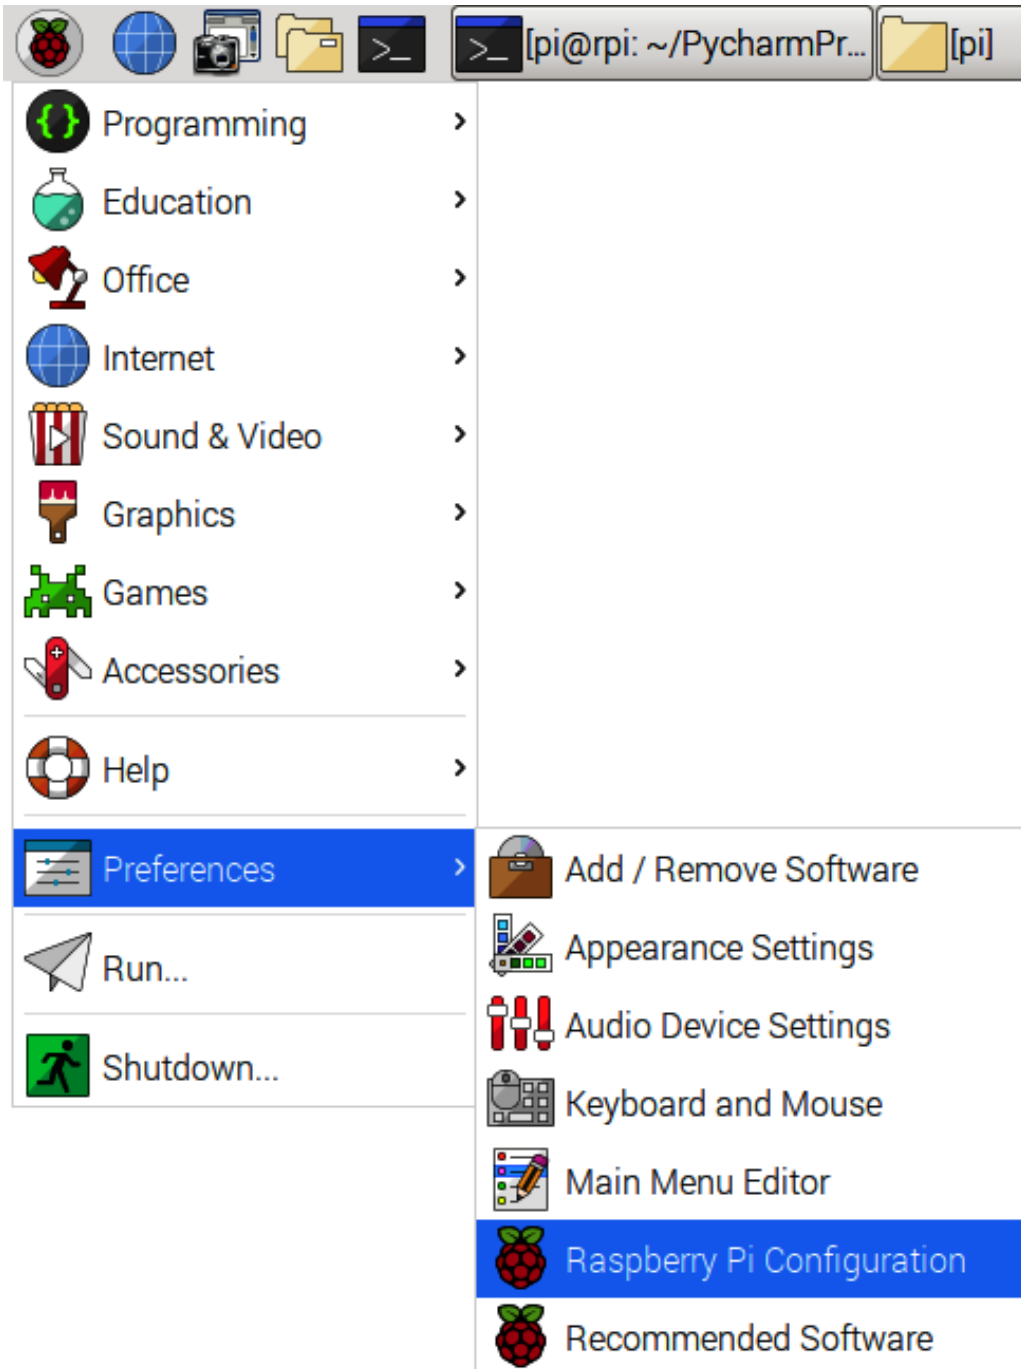

Figure 1.2 – Location of the Raspberry Pi Configuration menu item
1. From your Raspbian desktop, navigate to the Raspberry menu | Preferences | Raspberry Pi Configuration, as shown here in *Figure 1.2*: